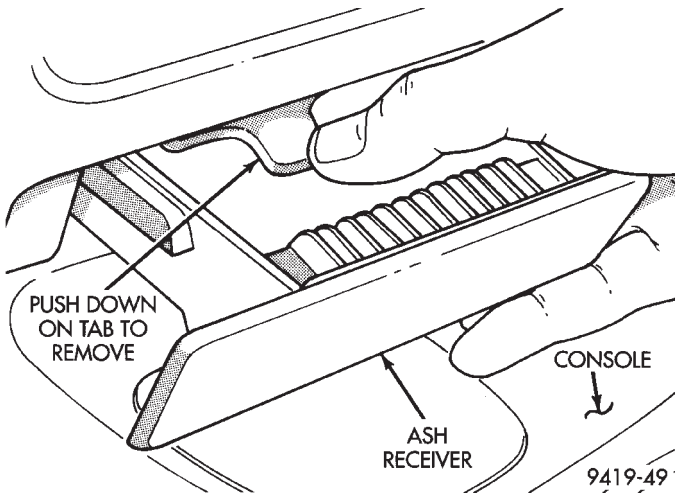

Fig. 11 Ash Receiver Removal
(11) Remove the ash receiver (Fig. 11) from the center console.